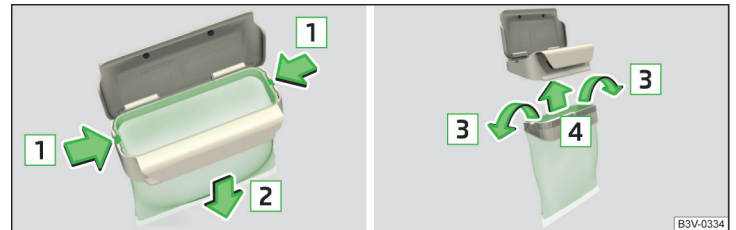

Fig. 115 Replace bags
- Press the two locking lugs on the frame in the direction of arrow **1** » Fig. 115.